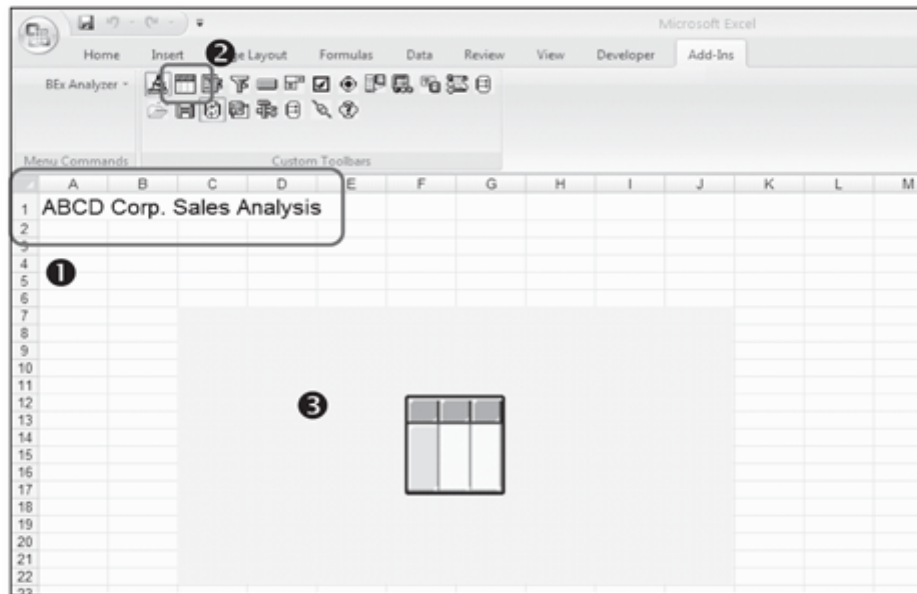

Figure 10.29 Insert Analysis Grid
2. Enter the heading "ABCD Corp. Sales Analysis" for the workbook, as shown in 1 of Figure 10.29.
3. To insert the analysis grid design item in the workbook, click on the button shown in ② of Figure 10.29. This adds the analysis grid to the workbook (①).